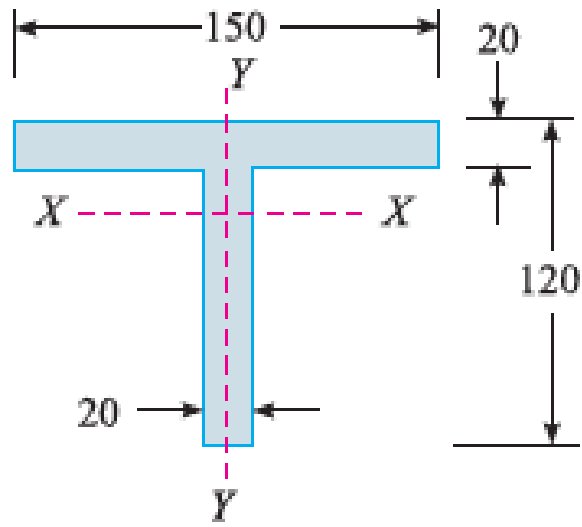

Figure Q5b
- b) A T-section 150 mm by 120 mm by 20 mm shown in **Figure Q5b** is used as a strut of 4 m long hinged at both ends. Calculate Euler's crippling load, if young's modulus for the material is 200 Gpa.